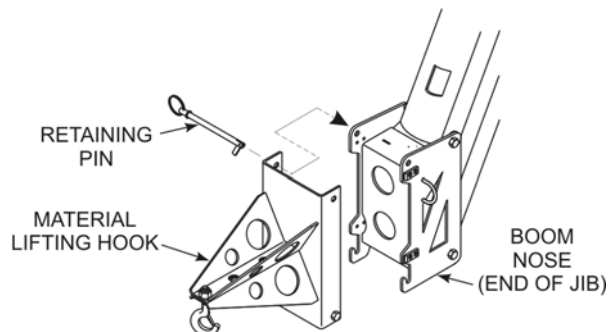

Figure 8-2. Material Lifting Hook Installation
- ❑ Attach the material lifting hook to the mounting bracket on the boom nose and insert the retaining pin (Figure 8-2).